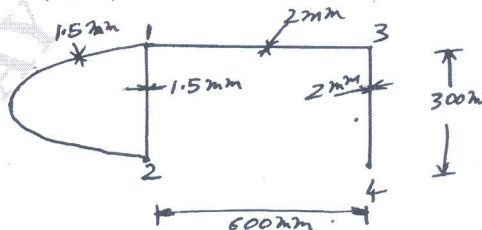

Fig.Q3(a)
- 3 a. Find the angle of twist per unit length in the wing whose cross-section is shown in Fig.Q3(a) when it is subjected to a torque of 10 kNm. Find also the maximum shear stress in the section.  $G = 25 \text{ GPa}$ . Wall 12(outer) = 900 mm. Nose cell area =  $20,000 \text{ mm}^2$ .